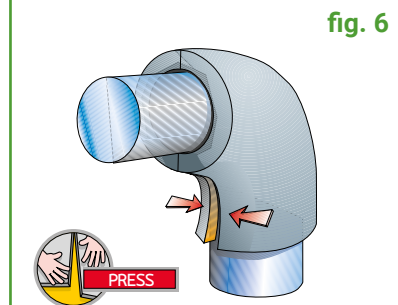

fig. 6
- 6) Fit the insulating material obtained to the curved section of the pipe, joining the inside edges by pressing them together (fig 6)